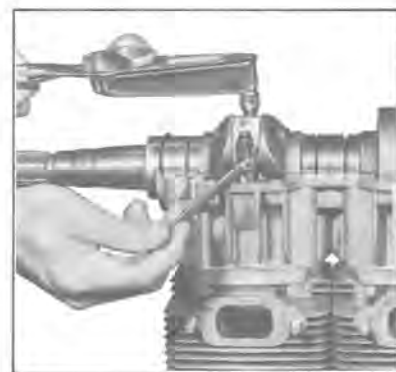

Figure 9-14
With the use of the appropriate OMC Ring Compressor, install the pistons into the cylinders. Be sure upon reassembly to get the correct piston into the correct cylinder, following your identification procedure during disassembly. Also, note that the dot on the dome of the piston should sit toward the exhaust port. See Figure 9-14.
- m. Once both the connecting rod caps and screws are in place, align the connecting rod caps to match with the connecting rod and check for proper alignment by drawing a pencil over the chamfered corners on both sides of the rod. If not aligned properly, the chamfered corners can be felt with the pencil point. Misalignment will affect free normal action of the rollers and can result in major damage. See Figure 9-14.